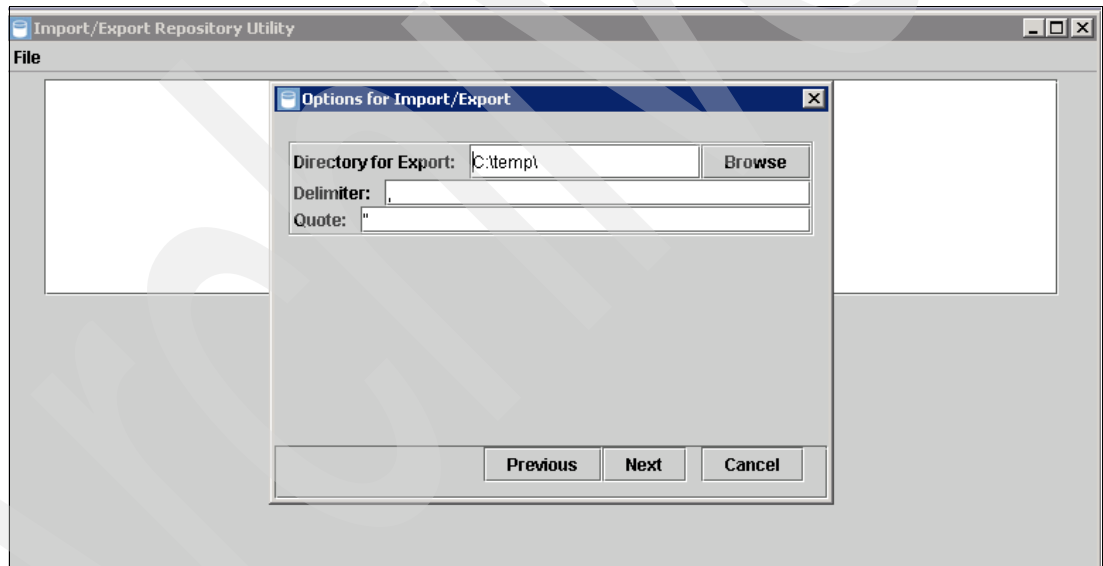

Figure 6-82 Options for Import/Export
3. Click **Next** (see Figure 6-82).